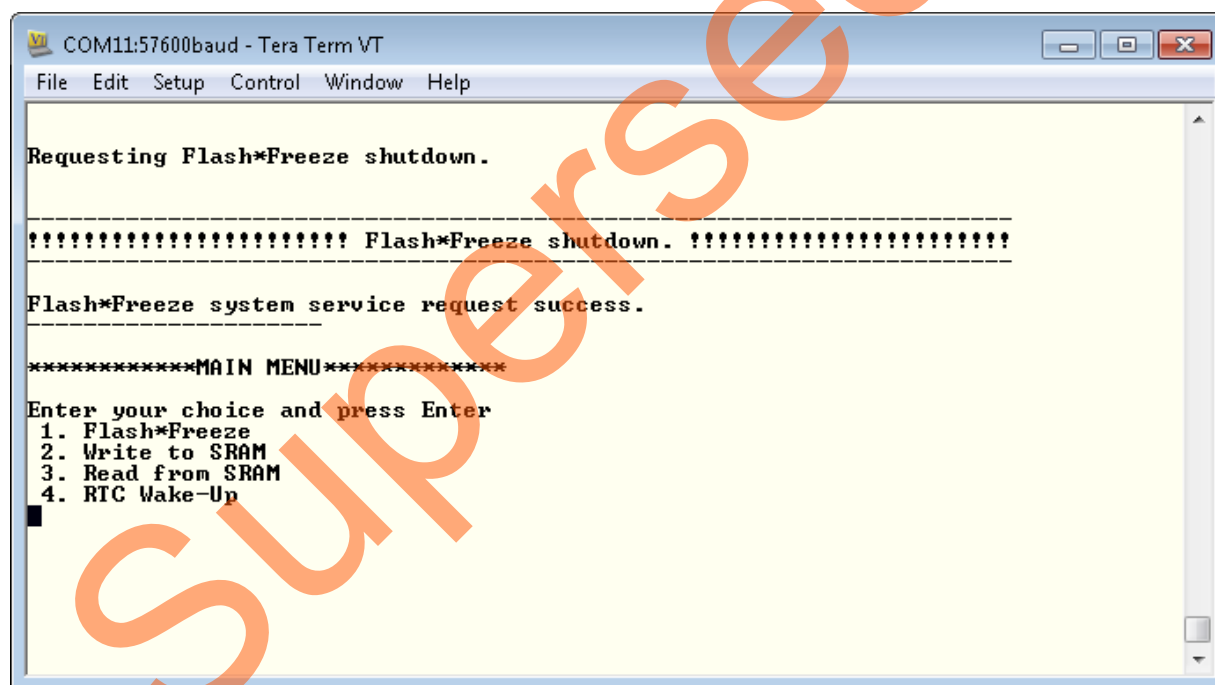

Figure 16 • Flash*Freeze Shutdown
1. Select 1 (Flash*Freeze). This will put the device state into F*F mode, as shown in Figure 16.
1. Select **1** (Flash*Freeze). This puts the device into F*F mode, as shown in Figure 16 on page 15. The LEDs on the board stop toggling, which indicates that the SmartFusion2 device entered into F*F mode.
- Select **1** (Flash*Freeze). This puts the device into F*F mode, as shown in Figure 16 on page 15. Note that the LEDs on the board stop toggling, which indicates that the SmartFusion2 entered into F*F mode.
- To wake-up the device from F*F mode, toggle DIP switches 1 and 2 to 0 position (ON) **AND** toggle DIP switches 3 and 4 to 1 position (OFF). Up on this setting, the device exits from F*F mode.
2. Select **1** (Flash*Freeze). This puts the device into F*F mode, as shown in Figure 16 on page 15. Note that the LEDs on the board stop toggling, which indicates that the SmartFusion2 entered into F*F mode.